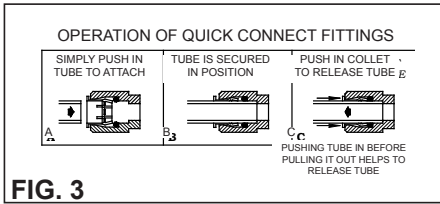

FIG. 3
11. Connect fountain to supply line with a shut-off valve and install a 3/8" unplated copper water line between the valve and the fountain. Remove any burrs from outside of water line. Push the tubes straight into the fittings until they reach a positive stop, approximately 3/4" (See Fig. 3). DO NOT SOLDER TUBES INSERTED INTO PLASTIC FITTINGS AS DAMAGE TO THE O-RINGS MAY RESULT.